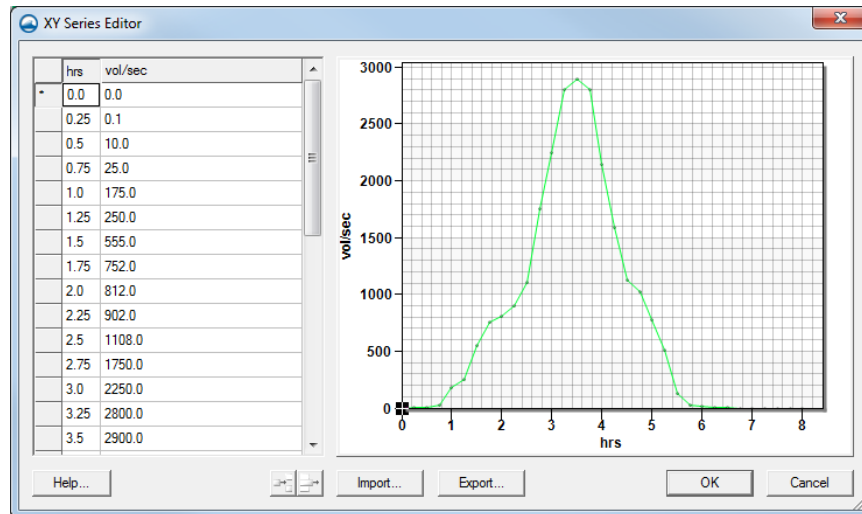

Figure 2 XY Series Editor dialog once values are entered
5. In the *Discharge Options* section, select “Time Series” from the *Discharge (Q)* drop-down.
10. Copy the values from the *Flow (cms)* column in the “InflowHydrograph.xls” file to the *vol/sec* column in the *XY Series Editor* dialog. The graph should appear as in Figure 2.